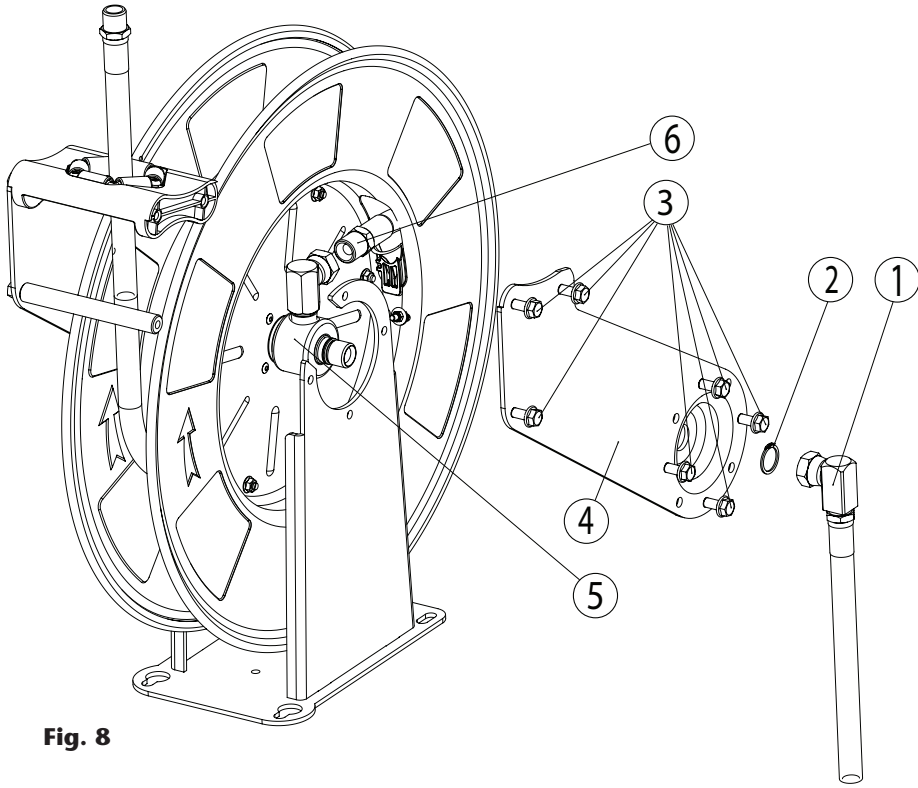

Fig. 8
- 1. Disconnect the hose from the swivel (6) (fig. 8).
- 2. Disconnect the inlet hose loosening the inlet fitting (1) (fig. 8), and move away the circlip (2) (fig. 8).
- 3. Loosen the bolts (3) (fig. 8), to be able to remove the upper arm (4).
- 4. Pull out the swivel assembly (5) (fig. 8) and replace the seals (6) (fig. 9).
5. Remove the upper arm (4) (fig. 8) removing away the circlip (2)(Fig.8) and loosening the bolts (3) (fig. 8).